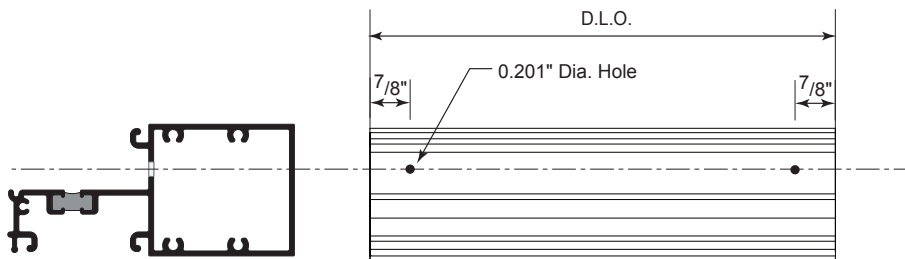

Fig.49.2
A. For SSG condition, shear block assembly must be used. Drill 0.201" dia holes in the horizontal members as shown in **Fig. 49.2**